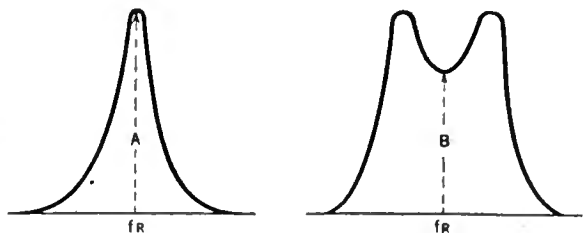

FIG. 4
Theory states, and if you care to look it up you will find it in Pierce's *Electrical Oscillations and Electrical Waves*, pages 73 to 85, or Morecroft's *Principles of Radio Communication*, pages 119 to 136, that when two such circuits are tuned to the same frequency, and coupled electrically to a sufficient degree, the circuit no longer responds to the frequency to which the individual circuits were tuned but to two new frequencies which are displaced from the single-circuit frequency a certain amount, depending upon the coupling. In Fig. 4 may be seen two extremes of coupling. In one case (A) the coupling is very loose, so that a single sharp peak shows up, and with this adjustment little energy is transferred from primary to secondary. In the other case (B) the coupling is too close. Two peaks arise with a sharp dip between. Somewhere between these two degrees of coupling is found the type of curve we want, broad at the top and steep at the sides.